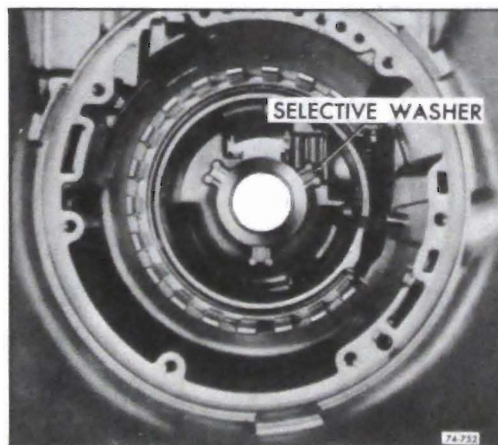

Figure 76-752
8. Lubricate and install gear selective washer into slots provided inside rear of transmission case. See Figure 76-752.